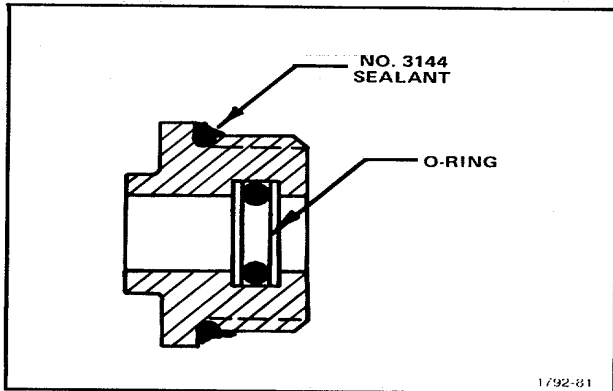

Figure 5-28. Lubrication of the O-rings and sealing for the cam switches
**24. Install cam switch Inserts (see Fig. 5-28)**
1. Apply G-661 lubricant to o-ring and install as shown in Fig. 5-28.